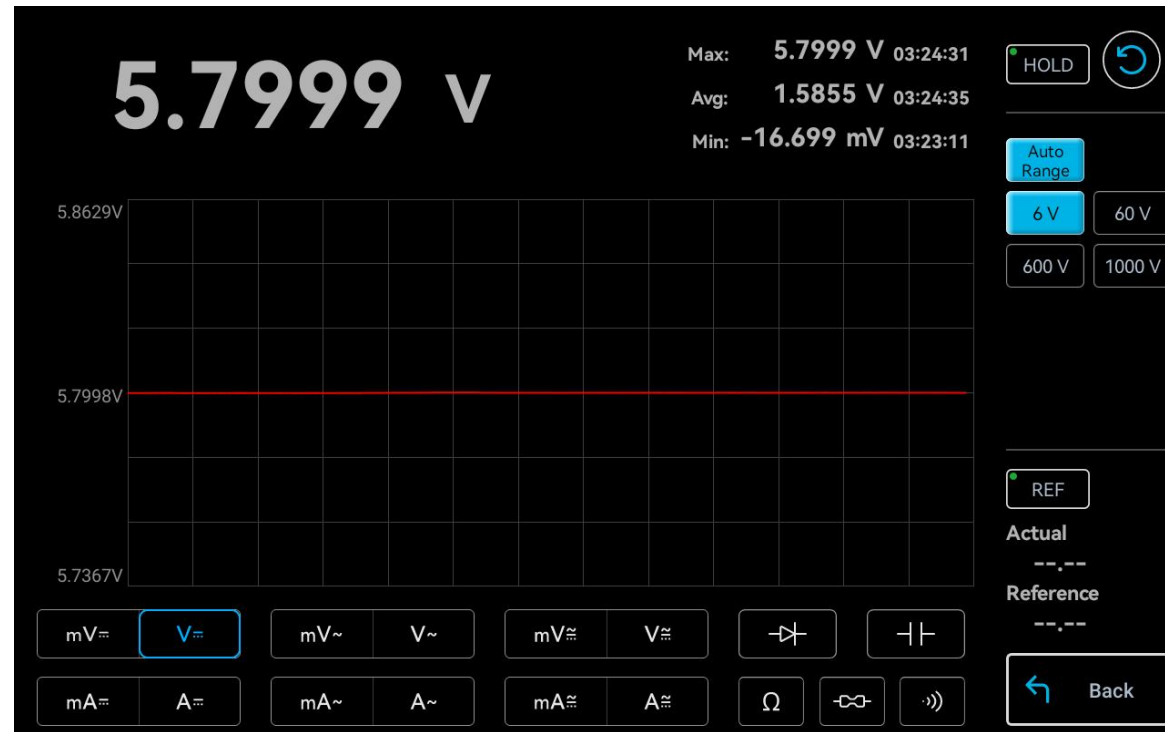

Figure 8-3 DC Voltage Measurement (V)
Test Steps: Select to enable the DC voltage measurement (V) in the measurement item selection area , as shown in Figure 8-3.